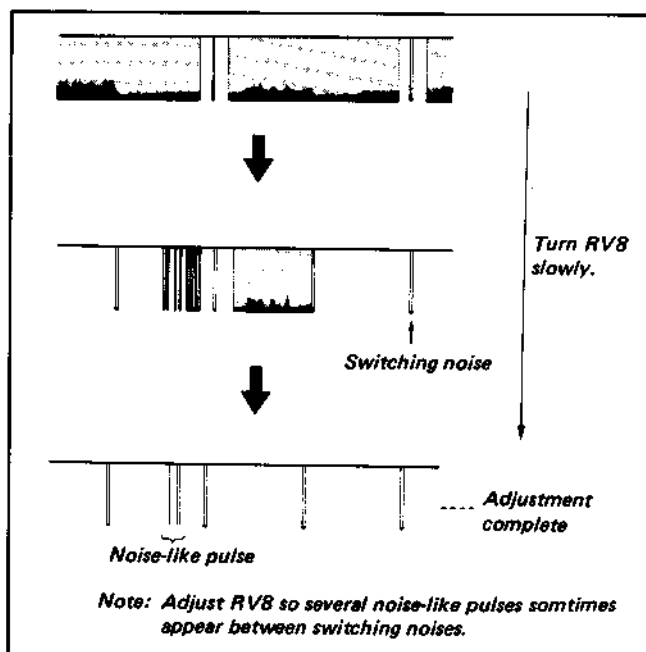

Fig. 4-15
- 3) Playback the recorded signal. (Short pins ② and ④ of CN307 on SS-17 board to get the playback mode.)
- 4) Turn RV8 fully clockwise ( $\odot$ ), as viewed from the pattern side, then, slowly turn it counter-clockwise ( $\ominus$ ) until the state shown in Fig. 4-15 is attained.